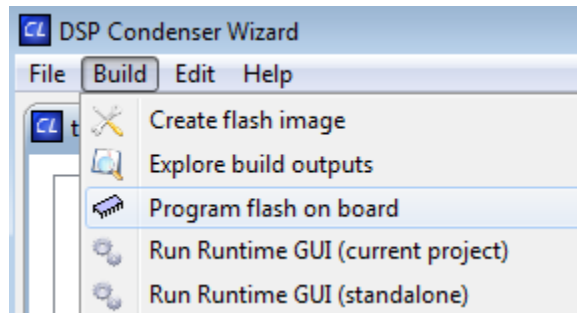

Figure 9-3. Program Flash on Board
4. Flash the image using “Program flash on board” as shown in Figure 9-3.